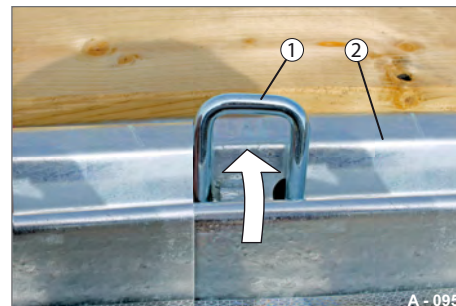

Fig. 147 Lashing shackle pressed out
- Press out the lashing shackle (Fig. 147/1) from below upwards.